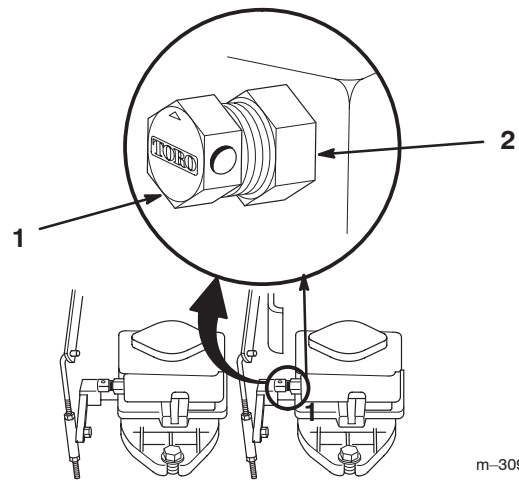

Figure 32
- Loosen large jam nut several turns (Figure 32).
- Gently close by-pass valve (Figure 32).
- Open by-pass valve 1/2 turn (Figure 32).
- Tighten jam nut to lock the adjustment (Figure 32).